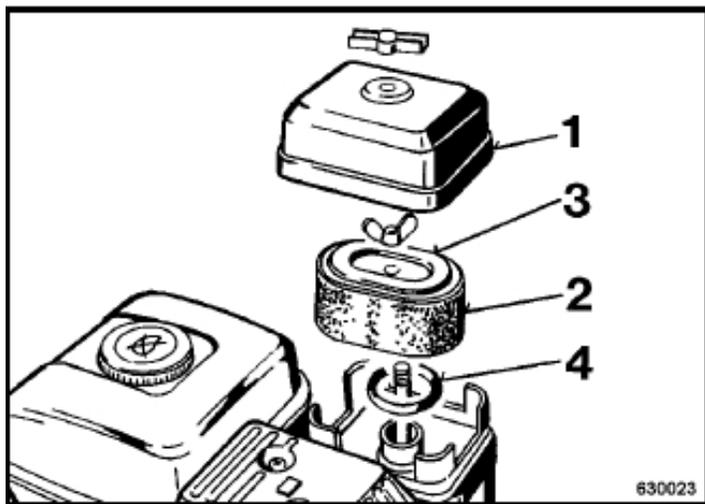

Fig. 45
- | Remove the cover 1 (Fig. 45).
- | Dispose of the foam insert (2) and the paper filter (3).